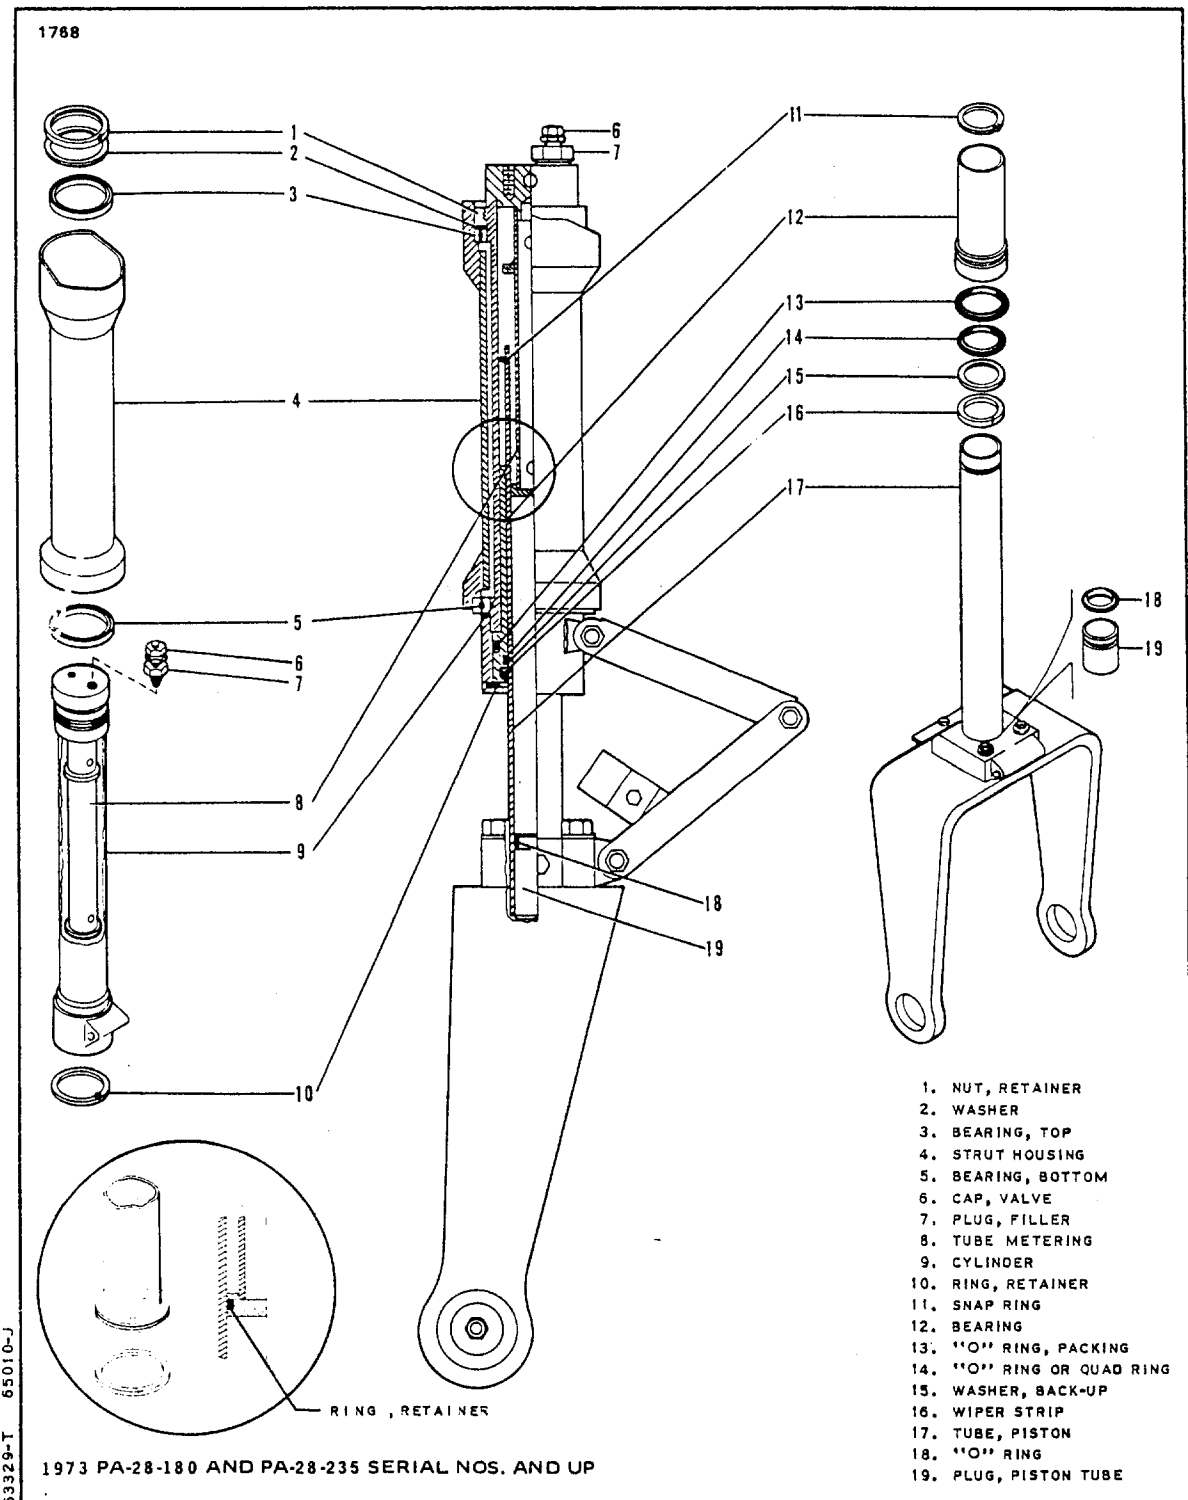

Figure 7-1. Nose Gear Oleo Strut Assembly
7-6. DISASSEMBLY OF NOSE GEAR OLEO. (Refer to Figure 7-1.) The nose gear oleo strut assembly may be removed and disassembled from the strut housing with the gear removed from or installed on the airplane.
7-8. NOSE GEAR OIL ORIFICE RETAINER RING INSTALLATION. (Refer to Figures 7-1 and 7-22.)
d. Insert the tool into the cylinder (9), with the centering stud positioned into the hole in the base of the metering tube (8).
e. Hold the tool tightly against the metering tube and slide the sleeve of the tool towards the metering tube. This will move the new retainer ring (10) over the end of the metering tube and position itself into the groove of the metering tube (8).
- 7-9. ASSEMBLY OF NOSE GEAR OLEO. (Refer to Figure 7-1.)
1. Lubricate the tube plug (19) and "O" ring (18) with hydraulic fluid (MIL-H-5606) and install the "O" ring on the plug.
- c. Carefully install in the bearing sleeve the quad ring (14), back-up washer (15) and the wiper strip (16). Slide the "O" ring (13) in place on the outside of the sleeve.
- d. Lubricate the bearing assembly and carefully install it on the piston tube (17).
- e. Position the snap ring (11) on the upper end of the piston tube.
- f. Insert the piston tube with bearing assembly in the cylinder tube (9). Secure it with the retainer ring (10) in the annular slot at the bottom of the tube.